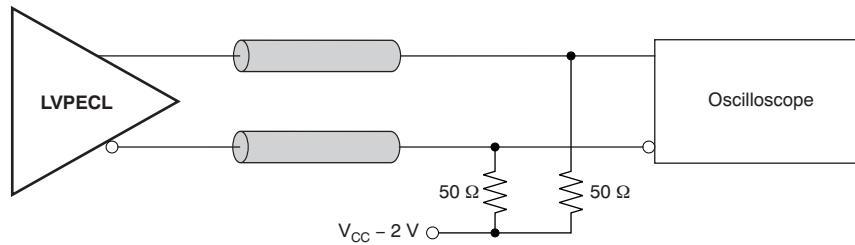

Figure 8. LVPECL Output DC Configuration During Device Test
(1) Figure 8 and Figure 9 show DC and AC test setup.
(2) Internally generated bias voltage ($V_{AC, REF}$) is for 3.3-V operation only. It is recommended to apply externally generated bias voltage for $V_{CC} < 3.0\text{ V}$.